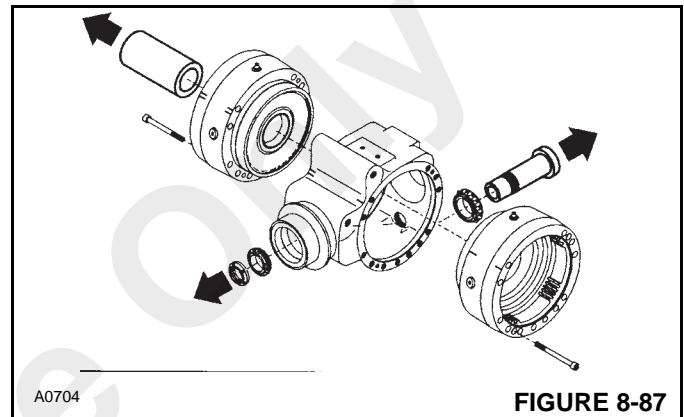

FIGURE 8-87
- Remove the false pinion, the bearings and the ring nut from the center housing (Figure 8-87). Remove the false differential box from the center housing. Remove the two brake flanges from the center housing.